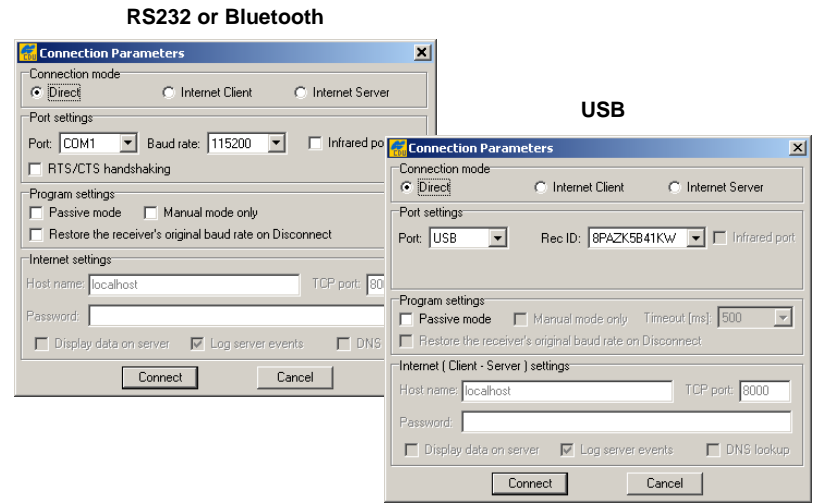

Figure 3-7. Connection Parameters
4. On the **Connection Parameters** dialog box, select the following parameters (Table 3-4) and click **Connect** (Figure 3-7).